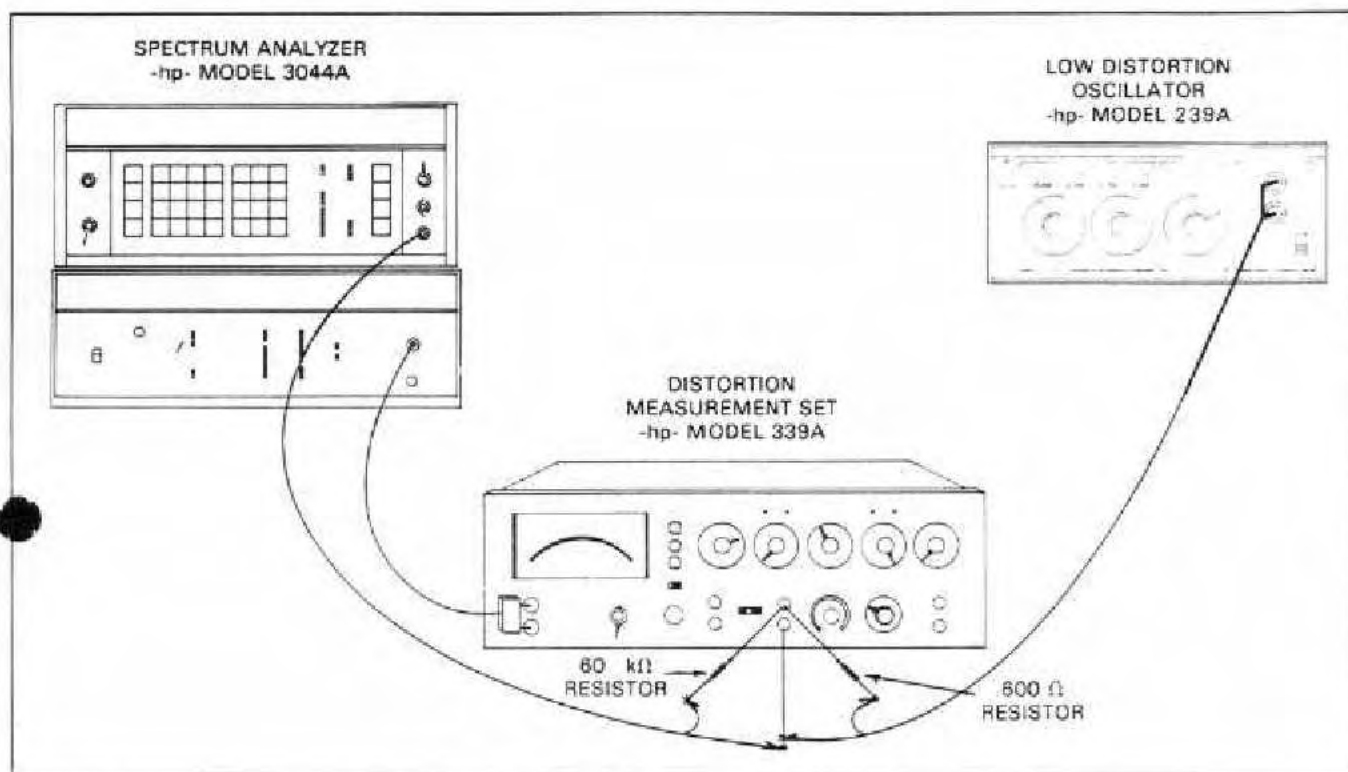

Figure 5-2. Notch Filter High Frequency Adjust.
a. Connect the equipment as shown in Figure 5-2.